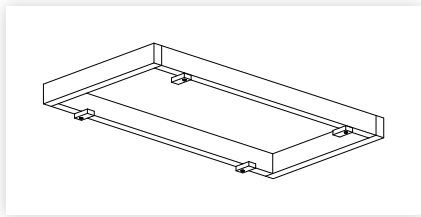

figure 7
1. Screw four temporary cleats approx 80mm x 40mm into your timber frame as shown in figure 7. Ensure cleats can be rotated.